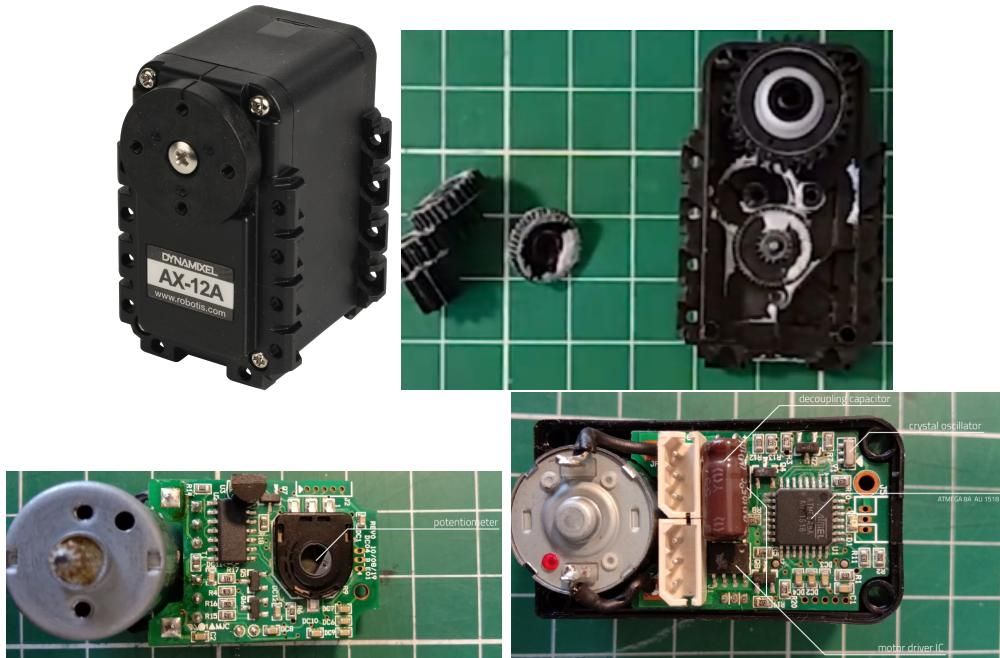

Figure 2.10: Top Left: AX-12A Motor, Top Right: Gear Box, Bottom Left: Potentiometer, Bottom Right: Microcontroller and Motor Driver
Our robot arm has five Dynamixel AX-12A servomotors. The functional components highlighted in the previous block diagram are captured in Figure 2.10 (Zoom in to see the different components labeled in the figure). A complete tear-down of a Dynamixel AX-12A motor is captured in this video: <https://youtu.be/lv-vgnHDV68>.
- (a) [*] Figure 2.10 suggests that a potentiometer is being used as the shaft position sensor. Research and describe how a potentiometer can be used for this purpose.